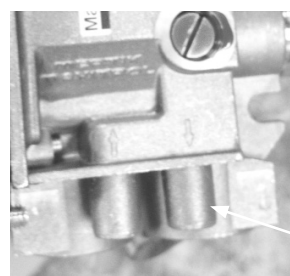

Figure 12.
Step 18: Connect LP gas supply to fireplace. Loosen the screw inside the manifold pressure test port and connect the manometer to the port. See Figure 12.